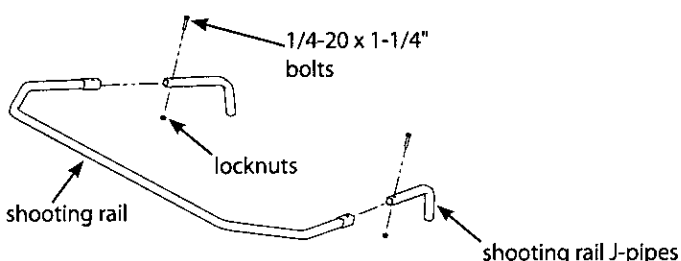

Figure 8
10. Insert the shooting rail J-pipes (410113) into the shooting rail front (410093) and secure together using (2) provided 1/4-20 x 1-1/4" bolts and locknuts. **SEE FIGURE 8.**